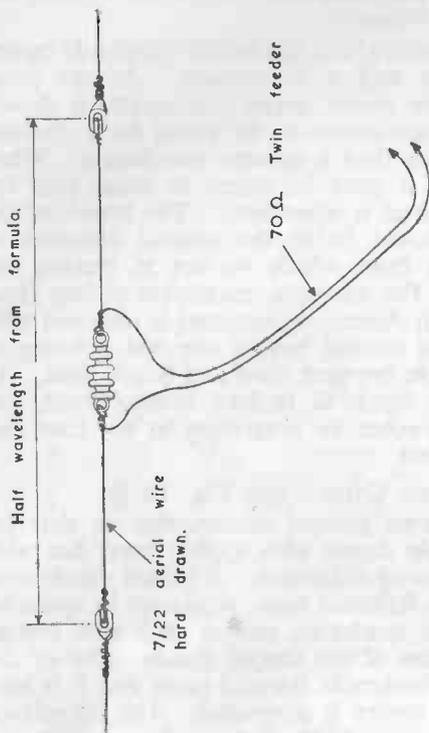

Fig. 18.1 Simple dipole.
#### (1) CENTRE FED DIPOLE (see Fig. 18-1)